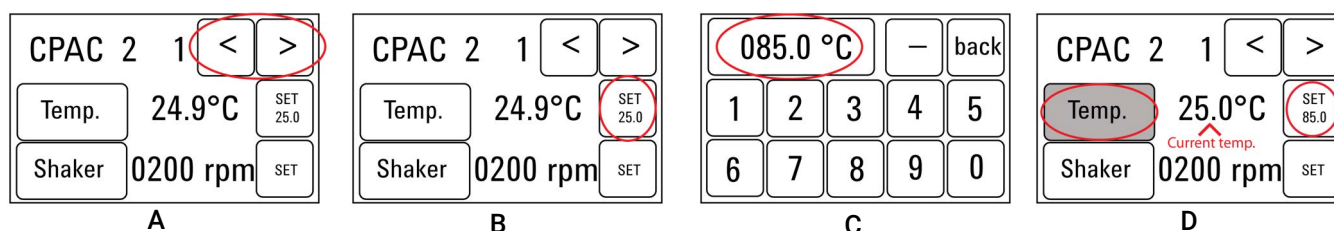

Figure 3 The steps for setting the temperature of Bravo deck heat blocks
- 1 Using the arrow buttons, select the appropriate block (CPAC 2 block 1 or CPAC 2 block 2). See panel A in **Figure 3**.
- 2 To set the temperature of the selected block, press the SET button. See panel B in **Figure 3**.
- 3 Using the numeral pad, enter the desired temperature. The entered temperature appears in the top, left rectangle. Once the correct temperature is displayed, press the rectangle to enter the temperature. See panel C in **Figure 3**.
- 4 Press the Temp button until the new temperature is displayed on the SET button and until the Temp button is darkened, indicating that the selected heat block is heating or cooling to the new temperature setting. The current temperature of the block is indicated in the center of the display. See panel D in **Figure 3**.